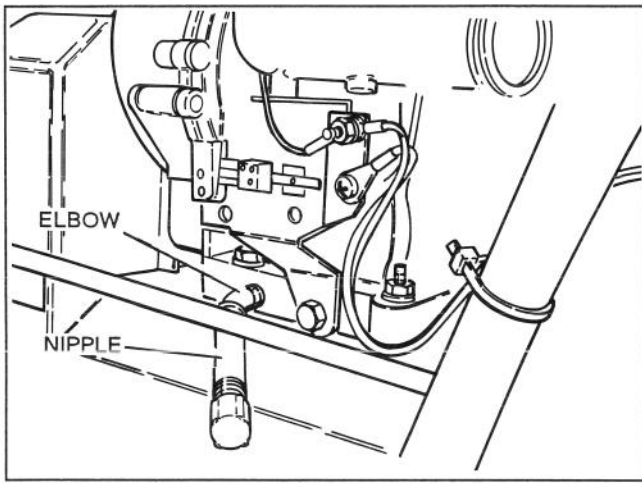

Figure 4
6. Thread elbow into left side of engine so it points to rear and down about 45° (Fig.4).